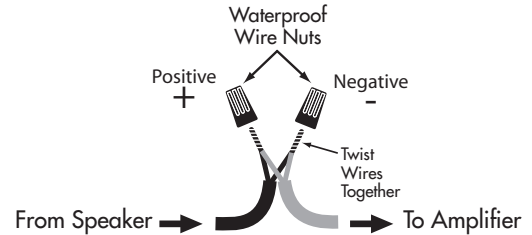

Figure 3
8. Connect the direct burial wire to each speaker wire, connections should be made with either silicone filled wire connectors or appropriate junction boxes. See Figure 3.